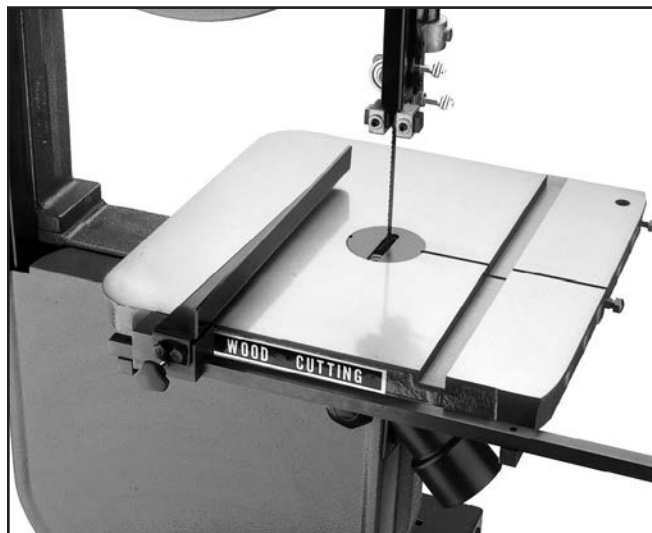

Figure 22. Fence in position.
4. Slip the fence onto the fence rail. To lock the fence in position, tighten the fence knob. **See Figure 22.**